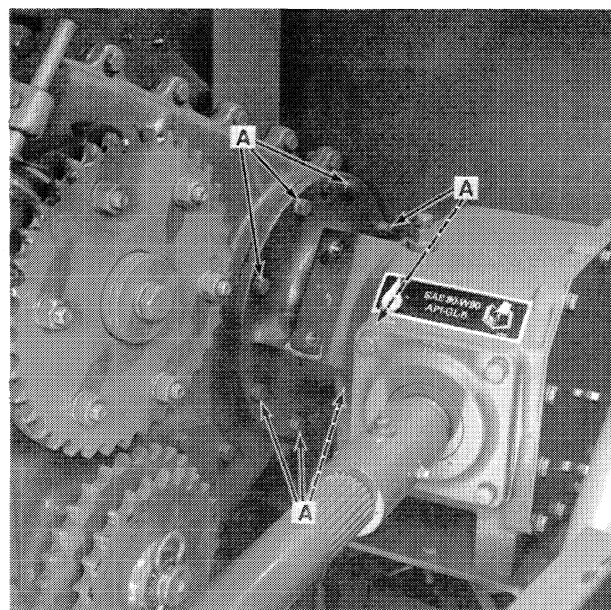

FIGURE 2-28
10. Remove the eight mounting bolts, A, Figure 2-28, fastening the reversing gearbox to the bevel gearbox.